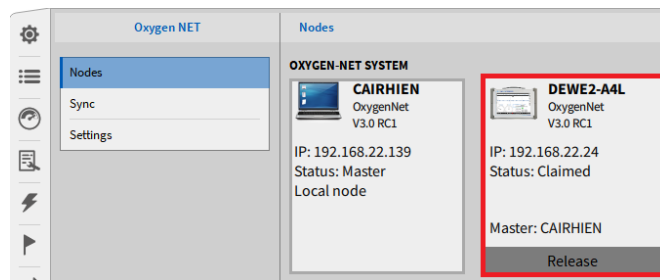

Figure 12-16: List of claimed devices
- After claiming a device by the Master unit, it is listed in the *OXYGEN Net System* section (see Figure 12-16) of the OXYGEN Net menu *Nodes* and may be released from the OXYGEN Net system again by clicking on the *Release* button